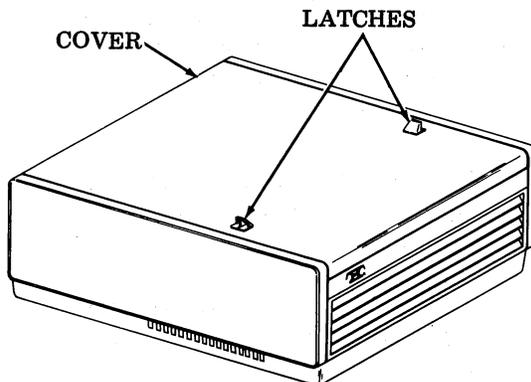

Fig. 23—Electronics Package Cabinet
4.63 Open the cover of the electronics package cabinet by sliding the two latches located on top of the cover toward the center of the unit, and lifting the cover up to its vertical position (Fig. 23).